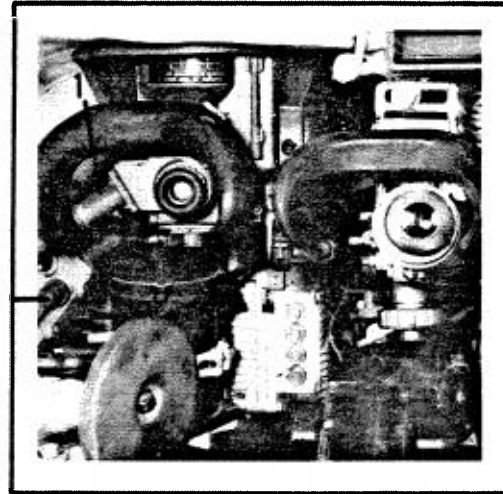

FIG. 3-88. PERISCOPE AND TELESCOPE
(3) Turn on toggle switch on BT-6-26 power supply (Fig. 3-88).